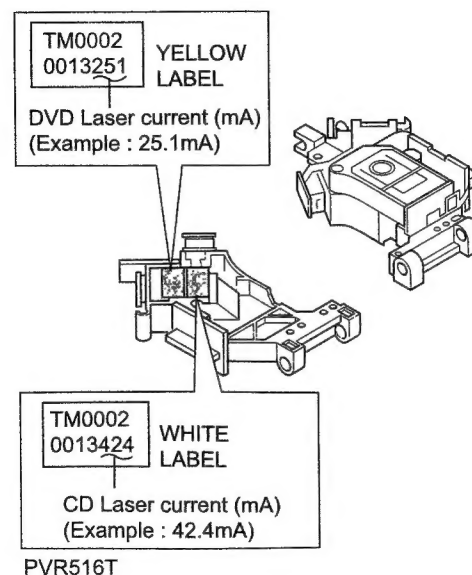

Figure 3. Laser current rating label
9.7 The measured laser current value should be + 20% of the printed current rating on the pickup head (PU). $PU-.20PU < LC < PU+.20$. See Figure 3.